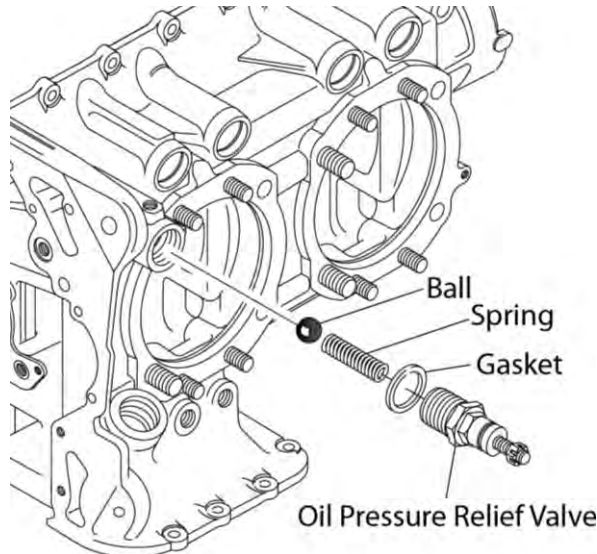

Figure 4
- B. Remove the oil pressure relief valve, spring, ball, and gasket (Figure 4) from the crankcase. Discard the gasket.
- A. Install a new gasket on the oil pressure relief valve (Figure 4).
- B. Install the spring in the oil pressure relief valve (Figure 4).